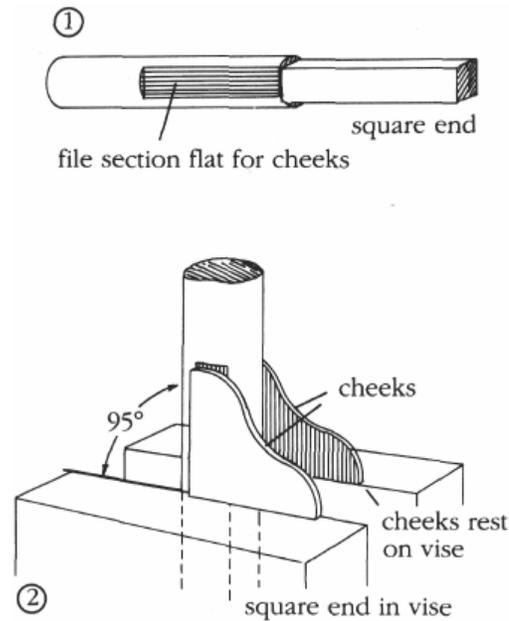

FIGURE 36. *Preparing the mast for cheek installation.*
is supported by two shoulders, or cheeks, pegged to each side of the mast. (Most masts are cut square from the upper edge of the cheeks to the masthead. If your mast has a belaying pin ring, or a boom-supporting ring and brass sail hoops, insert it before setting the cheeks in place. Figure 36 shows how to ready a mast for the cheeks. First, file part of the upper section of the mast on each side to provide a flat surface for gluing the cheeks (1). Insert the squared end of the mast in the vise with the flattened top